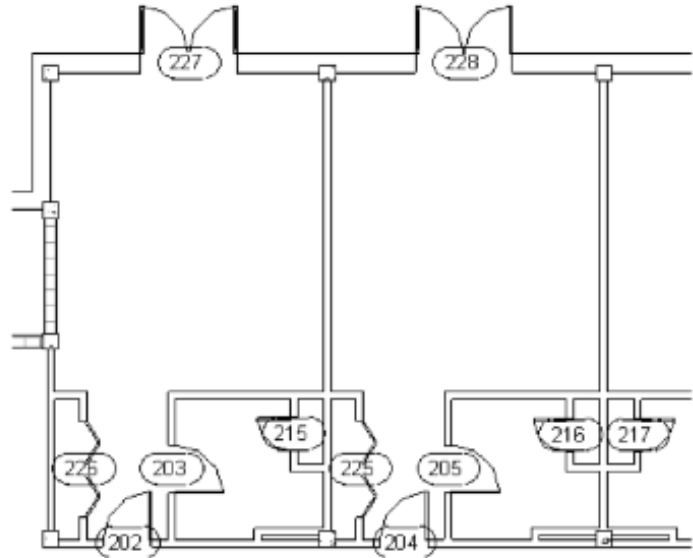

Figure 5–28
15. Continue adding other doors using different door styles (i.e., Bifold and Double-Glass). The rooms should look similar to the layout shown in Figure 5–28, though your numbering might be different.